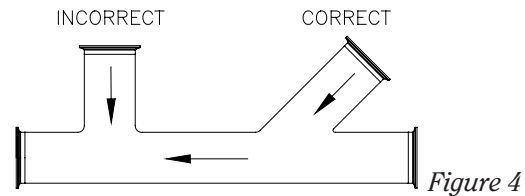

Figure 4
- Avoid abrupt transitions in the piping systems (*Figure 4*).